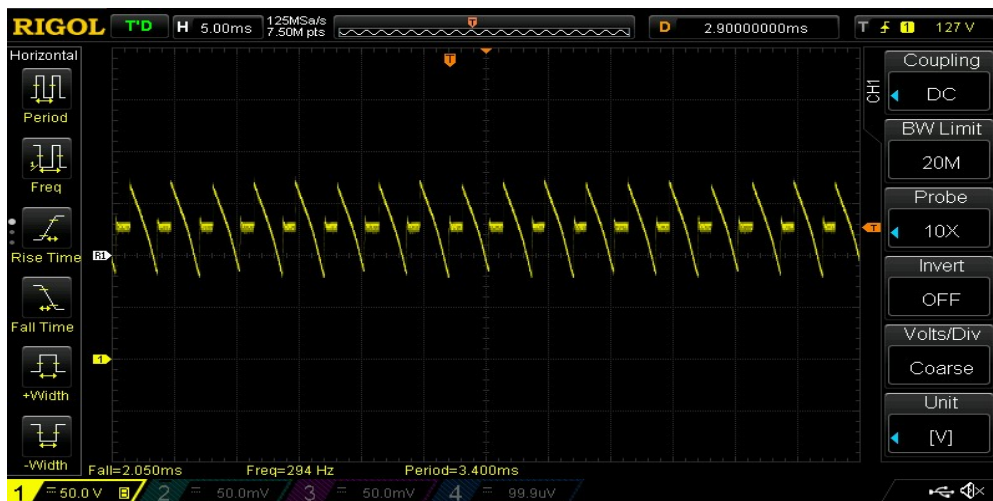
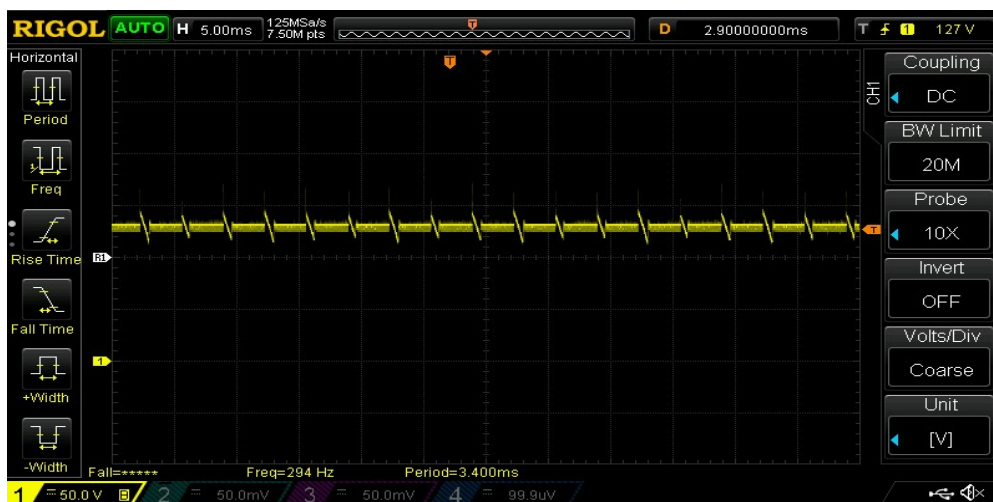

Figure 6. Three phase rectifier true thyristor bus voltage signal.
Figure 7. Three phase rectifier true thyristor bus voltage signal.
5. If your thyristor triggers will be in Figure 6 and Figure 7, it means your connections and phase sequence are true. You can connect inductor to system with connecting first terminal of port 1 wiring. You can restart rectifier and you can measure DC bus voltages on the battery mcb/fuse as 408Vdc floatig. It means rectifier connections are true and you finished rectifier build in your cabinet.
6. If trigger signals on scope screen not like in Figure 6 and Figure 7, you have to write us on whatsapp and our service will help you to understand what is wrong.